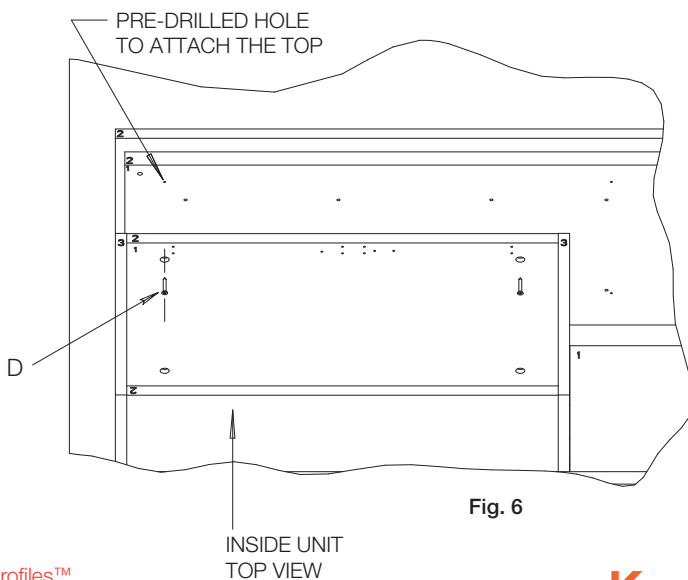

Fig. 6
1. Place the worksurface on top of the now mounted wall-hung credenza. Open the doors to see the 4 counterbored holes on each side of the interior. These are used to attach the worksurface to the credenza assembly. Using the pre-drilling also present in the worksurface secure the surface using screw (D). (Fig.6)